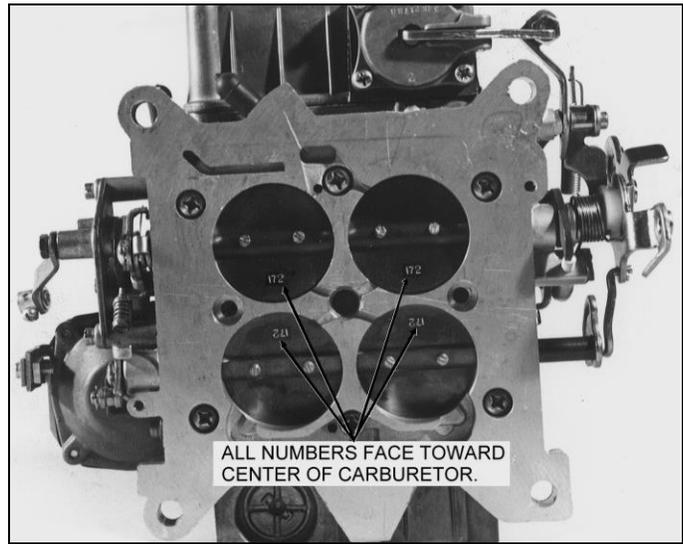

FIGURE 8
2. Notice the part numbers stamped on each plate. Take a new throttle plate and place it into the throttle bore with "R" facing down and the part number facing to the center of the carburetor. See Figure 8. The throttle plate should rest at a 15° angle in the closed position.
NOTE: The photo in Figure 8 shows the bottom and side views of the throttle body and throttle plates. Notice that the part numbers stamped on the plates face toward the center of the throttle body. On two barrel carburetors, the numbers will face towards the rear.